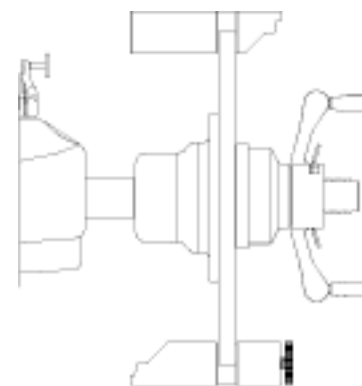

Figure 3-21
4. Remove the 100gr (3.50oz) weight from the left side and screw it into the right side of the Pruefroter. (Figure 3-21)